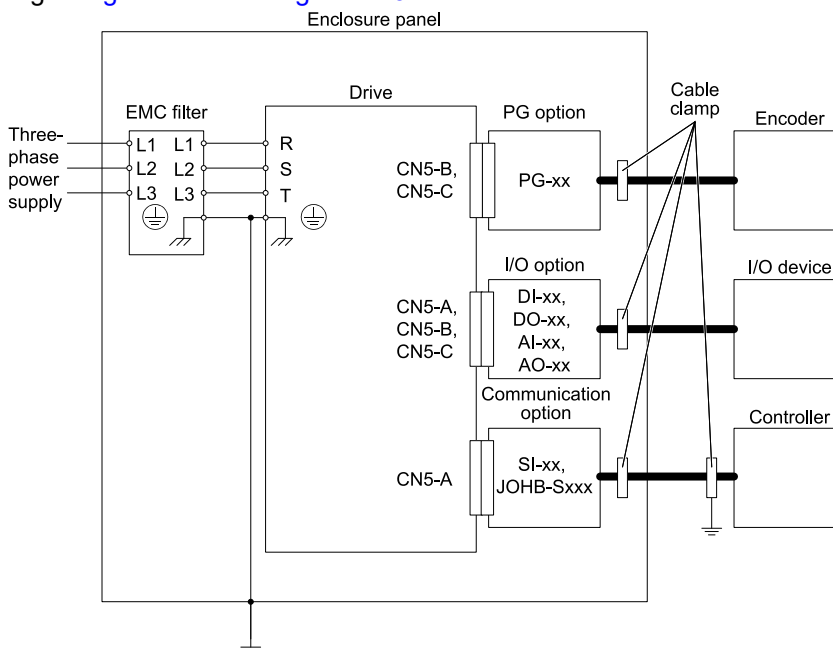
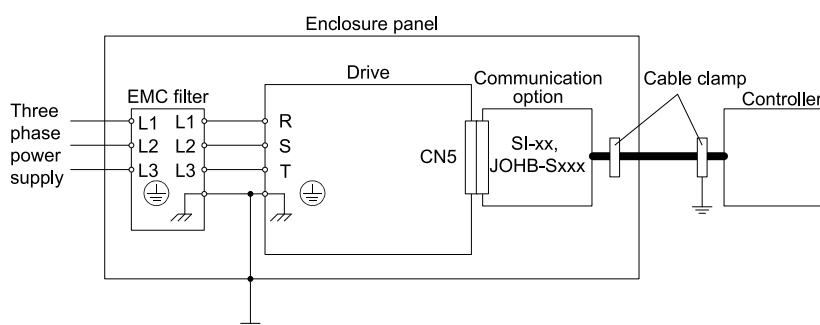

Figure 12.2 Option Installation for CE Compliance: GA700, GA800
Figure 12.3 Option Installation for CE Compliance: GA500
2. Keep wiring as short as possible and ground the largest possible surface area of the shield to the metal panel according to Figure 12.2 and Figure 12.3.